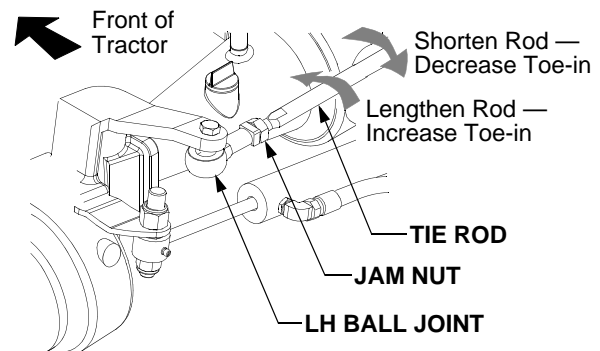

Figure 30
- Loosen the jam nuts at both the LH and RH ball joints. Refer to Figure 30.
Rearward to shorten the tie rod and decrease the toe-in. See Figure 30.
Forward to lengthen the tie rod and increase the toe-in. See Figure 30.